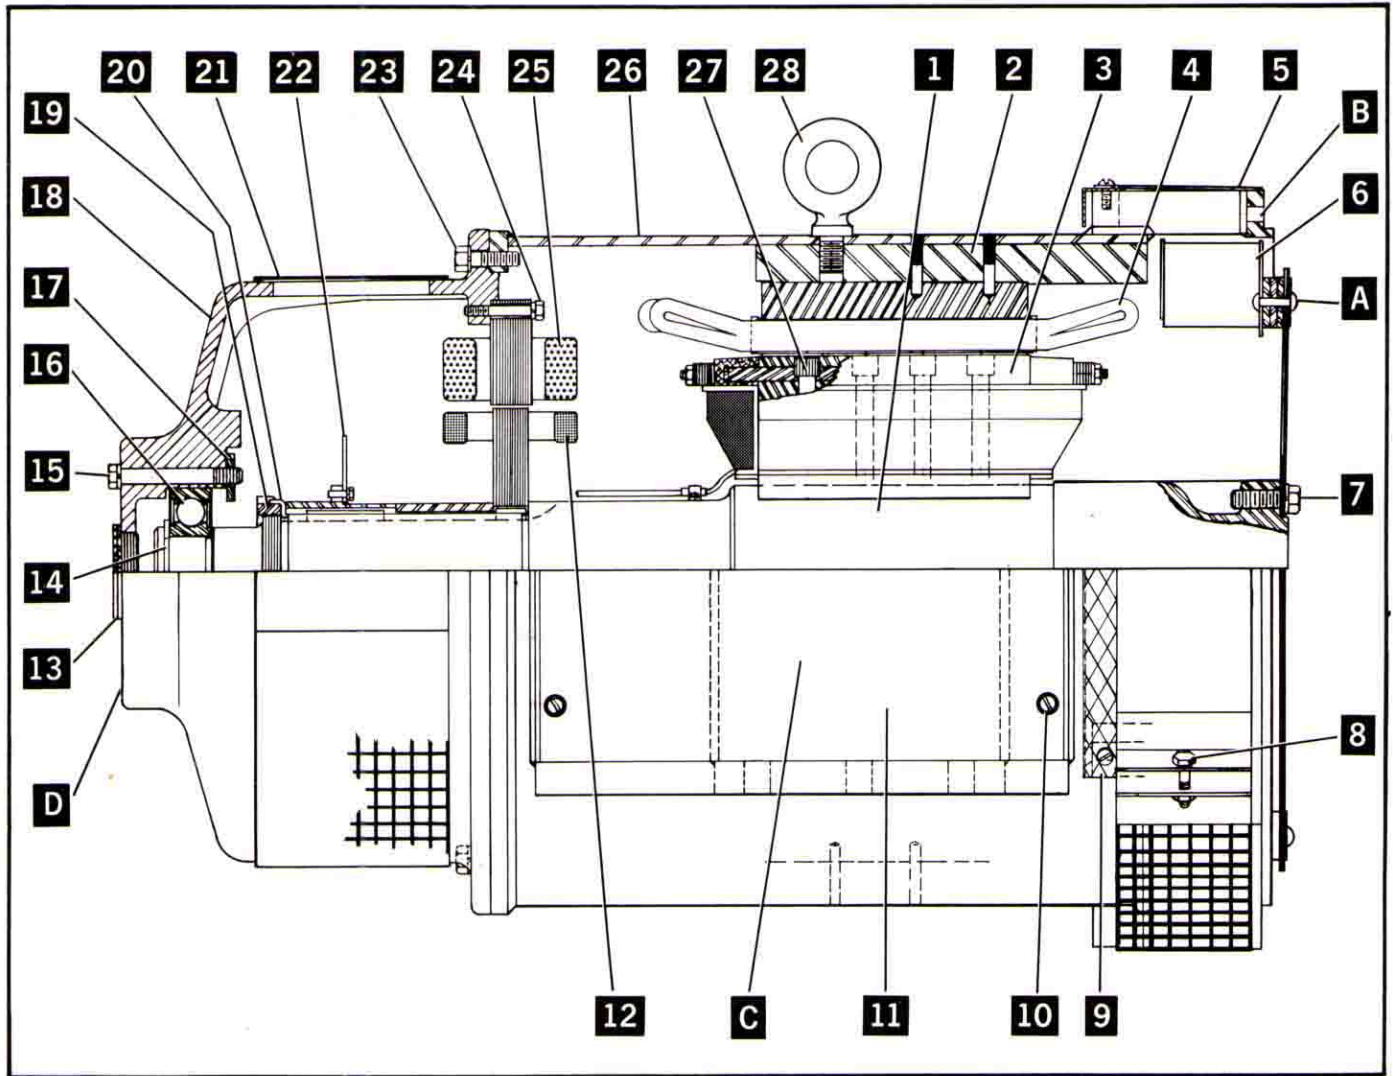
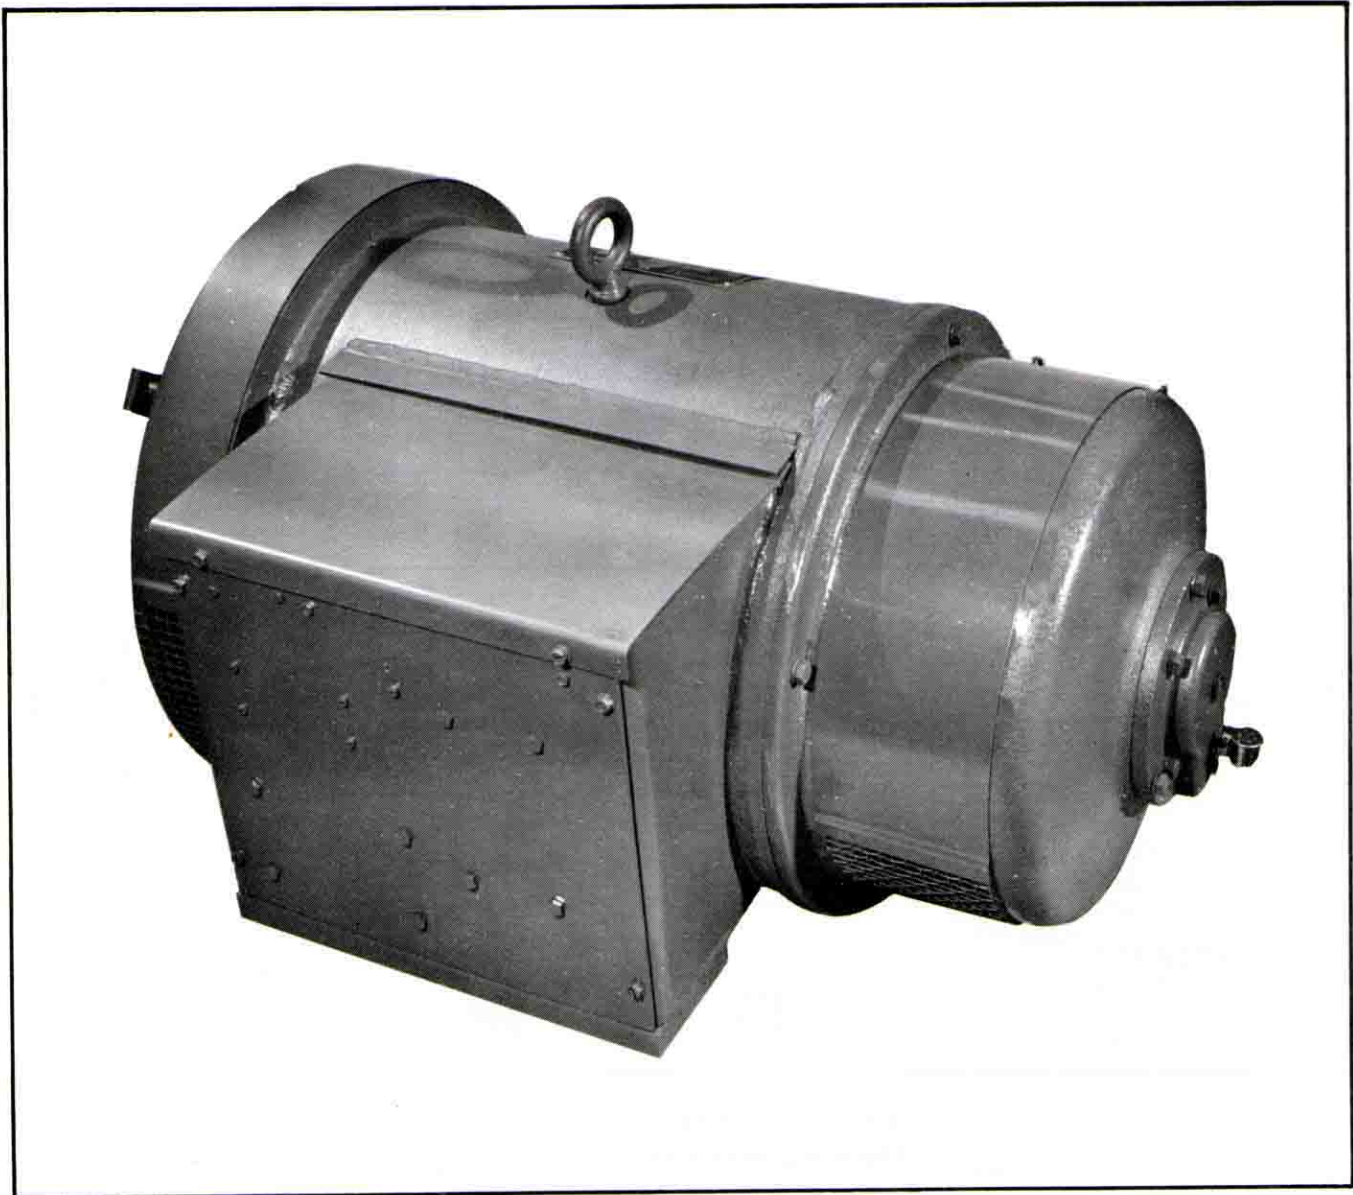
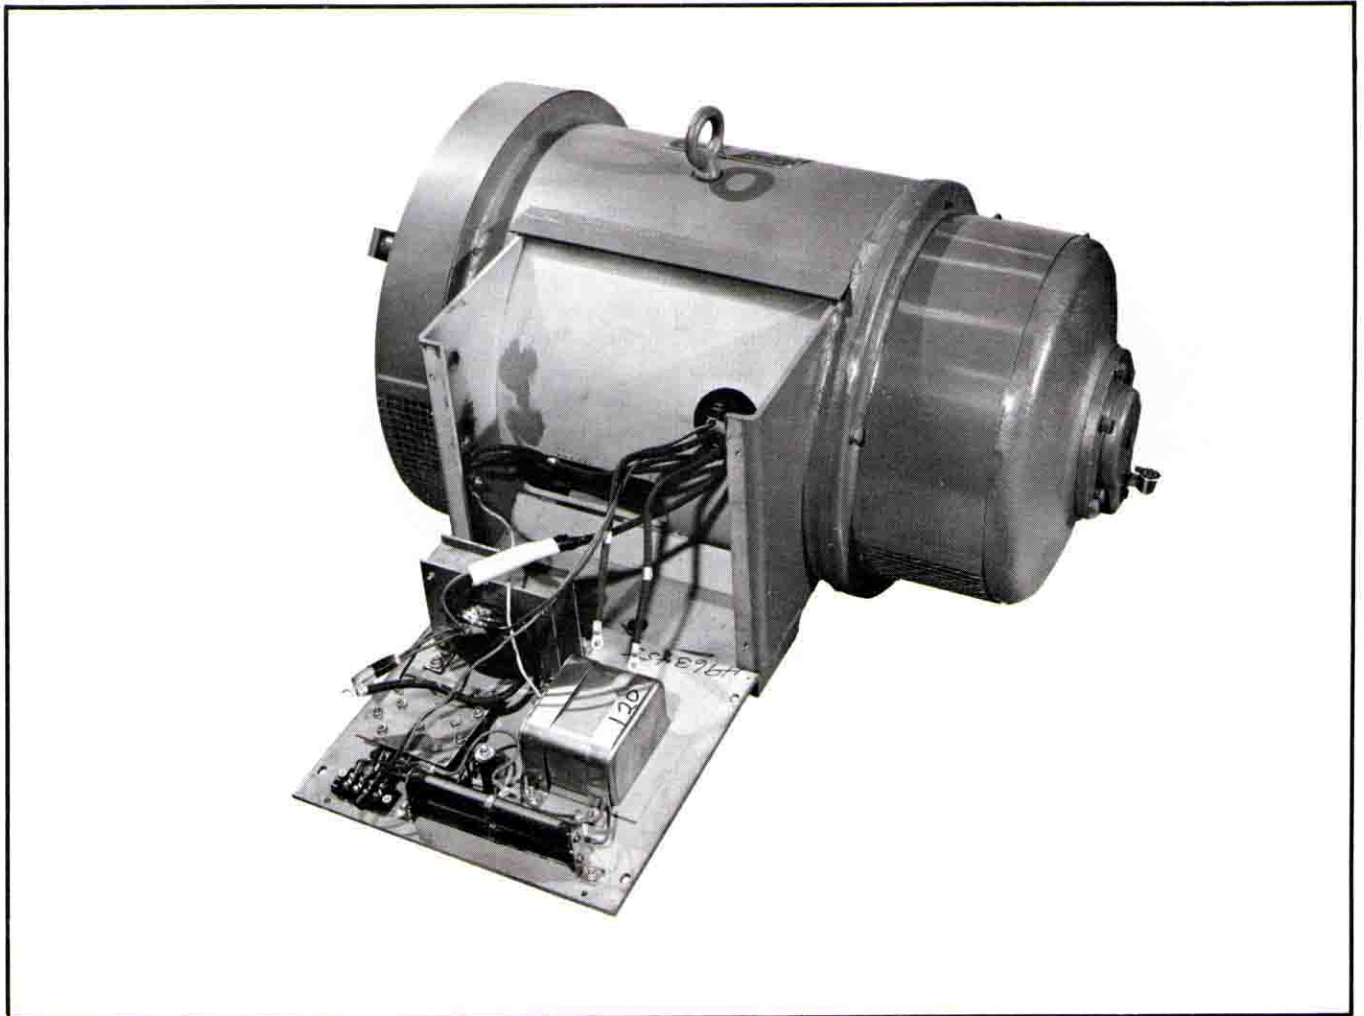

FIGURE 1. CUTAWAY VIEW OF TYPICAL RAILROAD REFRIGERATION GENERATOR
FIGURE 2. EXTERIOR VIEW OF TYPICAL
FIGURE 3. TYPICAL RAILROAD REFRIGERATION GENERATOR SHOWING COMPENSATOR LOCATION
(Numbers in parentheses refer to Figure 1)
General: The generator illustrated in Figure 1 and Figure 2 consists of three principal components: the alternator, the integral direct-connected exciter, and the built-in compensator. The alternator may be sub-divided into the rotating field (1), the stationary armature, or stator (2). The exciter consists of a rotating armature (12), a stationary exciter field assembly (25), a rotating rectifier assembly (22). This Delco design eliminates collector rings, commutator brushes, brush holders, and brush mounting parts.
The compensator, usually located in and on the foot of the generator (see Figure 1, location "C" and Figure 3) senses load changes, and automatically varies the exciter field to keep the generator output within specified limits.
The rotating rectifier bridge, exciter armature, and rotating field assembly are mounted adjacent to each other on the main shaft. The shaft is supported at the exciter end by a ball bearing (16), and at the drive end by the fan and driving disc assembly (6), which in turn is bolted (see Figure 1, location "A") to the driving engine flywheel. The generator is rigidly mounted (see Figure 1, location "B") to the engine flywheel housing.
4. If generator has oil-lubricated bearing, check oil level at gage (see Figure 1, location "D").